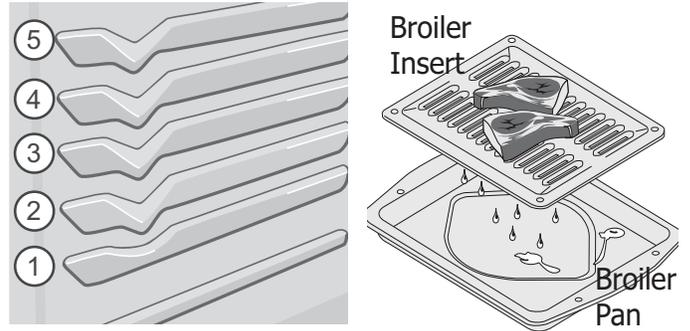

Figure 8: Rack positions (L) Broil pan and insert (R)
6. Place the broiler pan and insert on the oven rack (Figure 8).
The broiler pan and the insert (Figure 8), provided with some models, allows grease to drain and be kept away from the high heat of the broiler. Do not use the pan without the insert. Do not cover the insert with aluminum foil; the exposed grease could ignite.